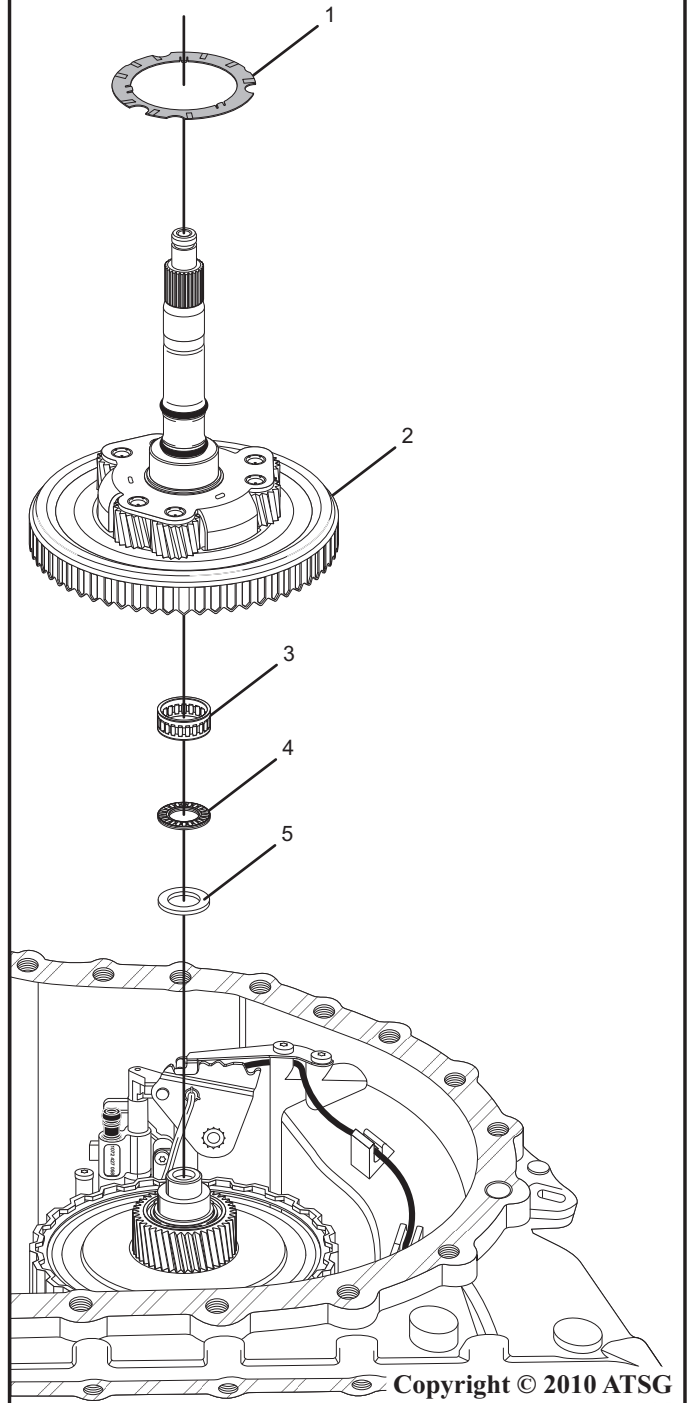

Figure 21
**Note:** install bearings and thrust washers using the diagram in figure 21.
47. Coat the thrust washer (selective) with a small amount of Trans-Jel® and install onto the variator shaft as shown in figure 21.
48. Coat the input bearing (flat needle bearing) with a small amount of Trans-Jel® and install onto the variator shaft as shown in figure 21.
49. Coat the input bearing (caged needle bearing) with a small amount of Trans-Jel® and install onto the variator shaft as shown in figure 21.
50. Install the input shaft/front planetary with a twisting motion as shown in figure 21.
51. Coat the input shaft/front planetary thrust washer with a small amount of Trans-Jel® and install onto the input shaft as shown in figure 21.